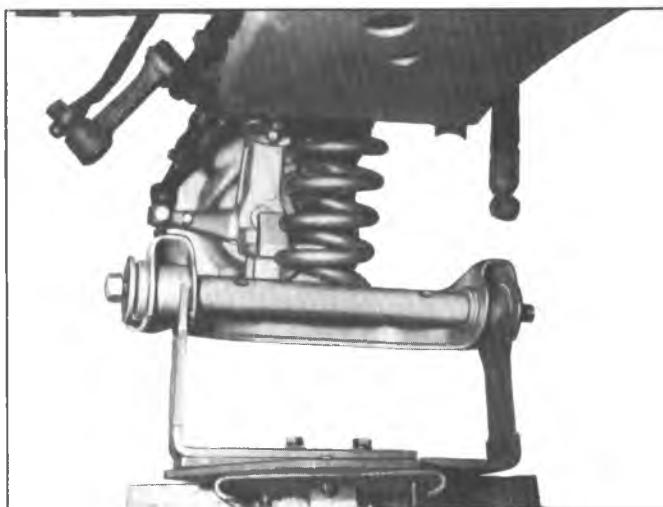

Fig. 33A—Lowering Control Arm for Bushing Replacement
##### Removal (figs. 33A and 33B)
7. Lower jack SLOWLY to release spring compression (fig. 33A) and gain clearance to remove bushings.